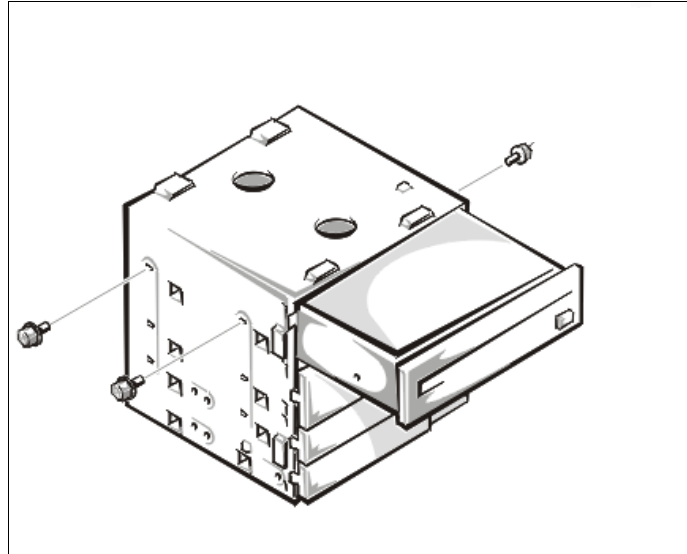

Figure 4
8. Slide the 5.25 inch floppy drive into the selected slot and attach with 4 drive-mounting screws (figure 4).